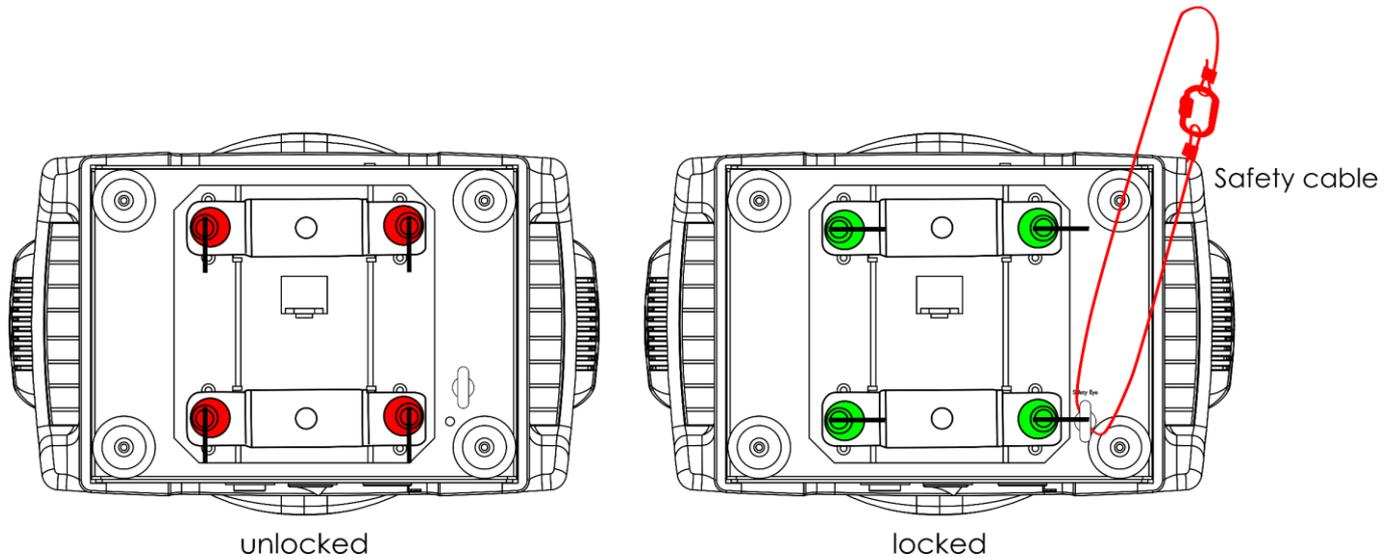

Fig. 09
- 01) Fasten the quick lock bracket, supplied with the device, on the **mounting holes for quick lock bracket (12)**, as shown in Fig. 09
- 03) Secure the device with a secondary suspension, for example a safety cable. Make sure that the secondary suspension can hold 10 times the weight of the device. If possible, the secondary suspension should be attached to a supporting structure independent of the primary suspension. Put the safety cable through the safety eye as shown in Fig. 09.